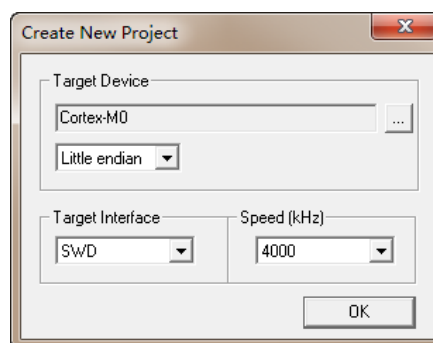
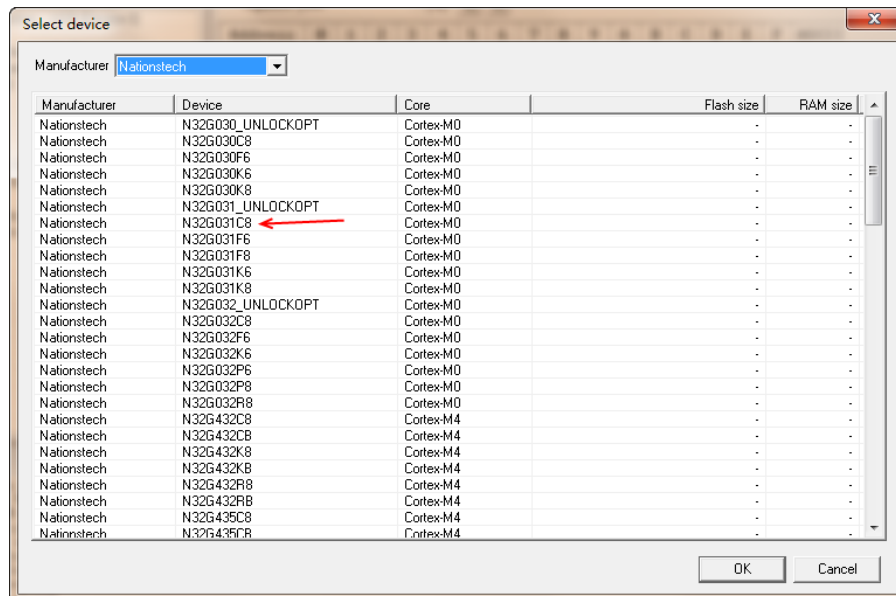

Figure 4-2. Create New Project Window
Figure 4-3. Select Device Window
2. The new project window popped up, as shown in Figure 4-2. Click "... "in this window, the Target Device selection list window is displayed as shown in Figure 4-3. Select N32G031C8 in the Select Device window and then click "OK".